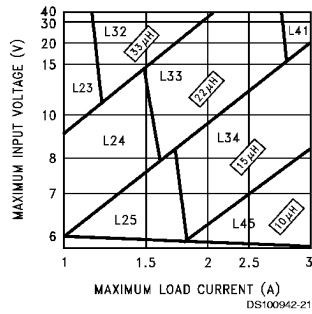
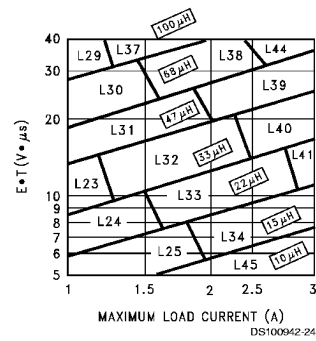

FIGURE 3. LM2670-3.3
FIGURE 6. LM2670-ADJ
Step 3: Determine the inductor required by using one of the four nomographs, *Figure 3* through *Figure 6*. Table 1 provides a specific manufacturer and part number for the inductor.
Step 5: Determine an input capacitor from Table 4 for fixed output voltage applications. Use Table 2 to find the specific capacitor type. For adjustable output circuits select a capacitor from Table 2 with a sufficient working voltage (WV) rating greater than $V_{in\ max}$, and an rms current rating greater than one-half the maximum load current (2 or more capacitors in parallel may be required).
Step 3: Use the nomograph for the 3.3V device, *Figure 3*. The intersection of the 16V horizontal line ($V_{in\ max}$) and the 2.5A vertical line ($I_{load\ max}$) indicates that L33, a 22 μ H inductor, is required.
Step 3: To use the nomograph for the adjustable device, *Figure 6*, requires a calculation of the inductor Volt•microsecond constant ($E \cdot T$ expressed in $V \cdot \mu s$) from the following formula:
Using *Figure 6*, the intersection of $27\text{V} \cdot \mu\text{s}$ horizontally and the 2A vertical line ($I_{\text{load max}}$) indicates that L38, a $68\mu\text{H}$ inductor, should be used.
Important Note: When using the adjustable device in low voltage applications (less than 3V output), if the nomograph, Figure 6, selects an inductance of $22\mu\text{H}$ or less, Table 6 does not provide an output capacitor solution. With these conditions the number of output capacitors required for stable operation becomes impractical. It is recommended to use either a $33\mu\text{H}$ or $47\mu\text{H}$ inductor and the output capacitors from Table 6.